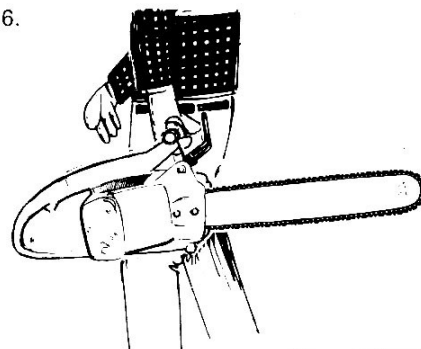

FIGURE 6
13. Place the chain guard over the bar and always carry the chain saw with the engine stopped, the guide bar and saw chain to the rear, and the muffler away from your body. See Figure 6.